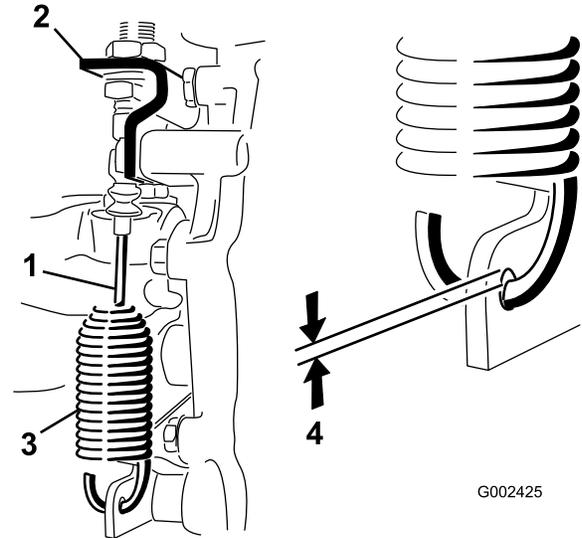

Figure 44
2. Loosen the jam nuts securing the differential lock cable to the bracket on the transaxle (Figure 44).